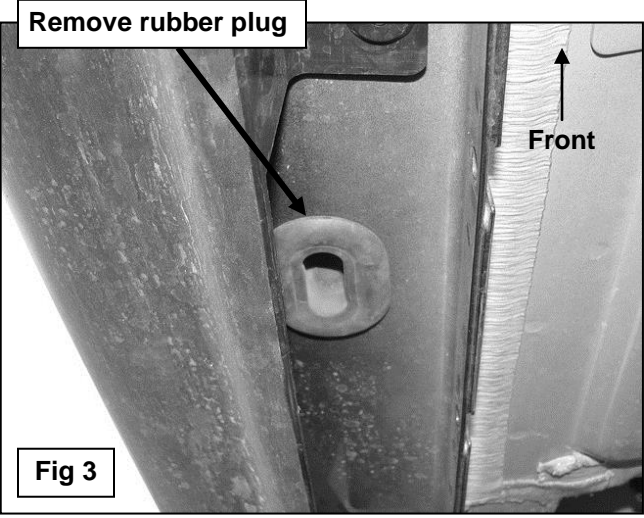

Fig 3
2. Starting at the passenger side front, locate the 3 pairs of (2) small holes in the pinch weld, (**Figures 1 & 2**). Remove the rubber plug filling the oval hole in the bottom of the rocker panel directly in front of the (2) holes, (**Figure 3**). Select (1) 12mm Bolt Plate and (1) 12mm Plastic Retainer, (**Figure 4A**). Thread the Retainer part way onto the Bolt Plate. **NOTE:** The Retainer will help hold the Bolt Plate in position during Bracket installation. Insert the Bolt Plate into the hole and rotate 90-degrees to the slot, (**Figures 4B & 5**). Thread the Retainer down until it is tight against the sheet metal.